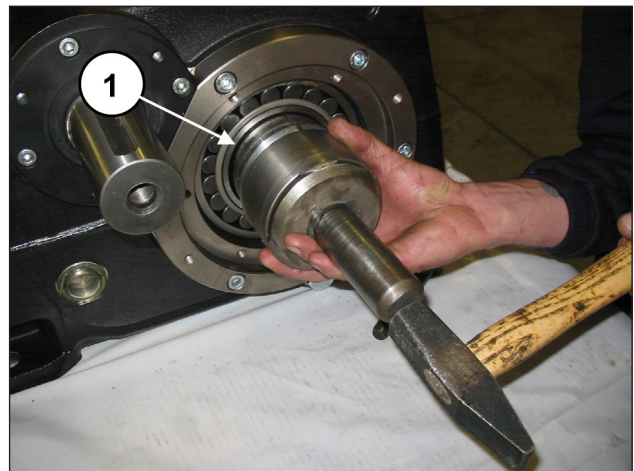
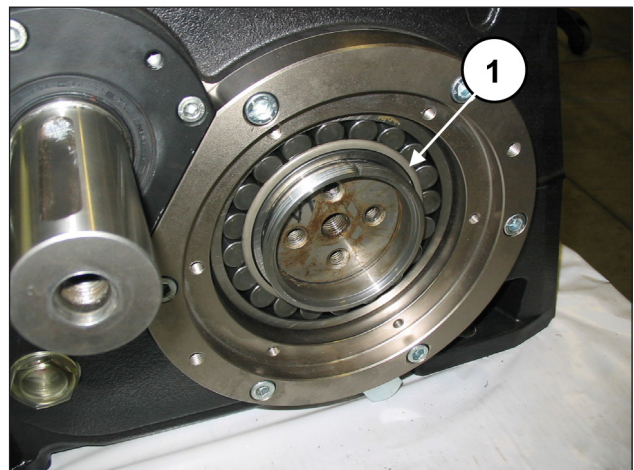

Fig. 76
Fig. 77
Insert the pressure bush completely onto the bend shaft (pos. ①, Fig. 76 and Fig. 77) using an extractor hammer and a buffer.